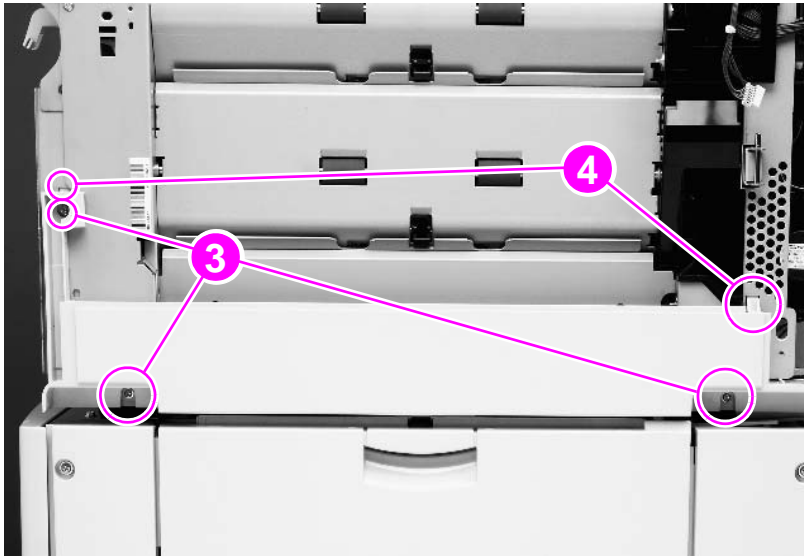

Figure 80. Removing the PIU (3 of 5)
- Reinstall the right lower cover (figure 80 on page 142) before the right rail cover (figure 61 on page 127).